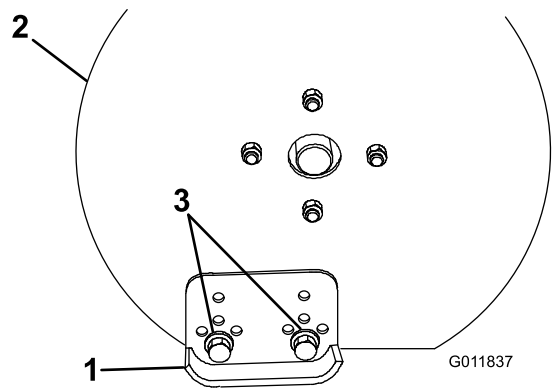

Figure 11
2. Remove the nuts, washers, and bolts securing the skids to the housing (Figure 11).
3. Position the skids equally on both sides, to obtain a level scraping action, and secure the skids with the nuts, washers, and bolts (Figure 11).